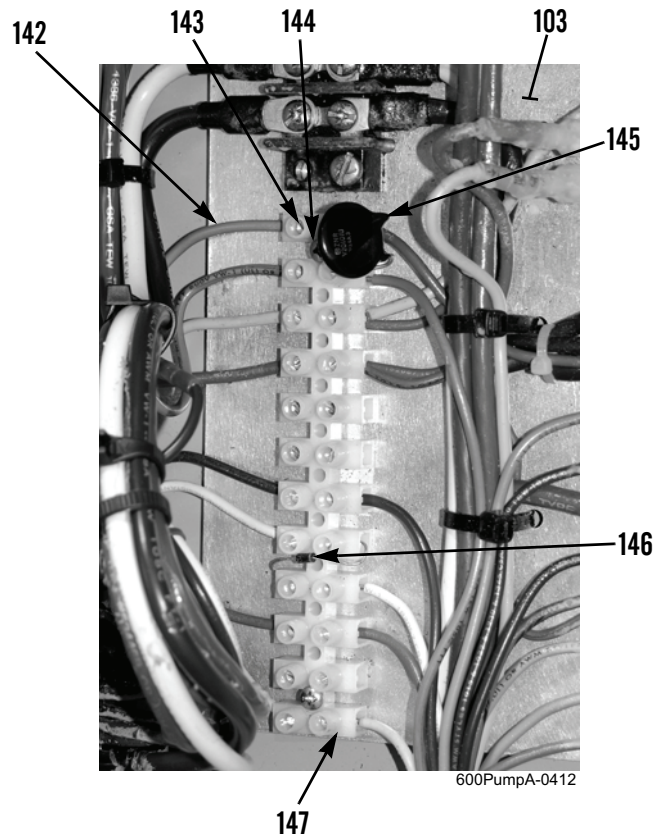

Figure 37. Large-Connection Terminal Block.
1. Loosen 18 screws (Figure 37, Item 143) and remove 18 wires (Figure 37, Item 142), resistor (Figure 37, Item 145), and diode (Figure 37, Item 146) from large-connection terminal block (Figure 37, Item 147).
2. Remove two screws (Figure 37, Item 144) and large-connection terminal block (Figure 37, Item 147) from inside circuit board panel (Figure 37, Item 103).
1. Install large-connection terminal block (Figure 37, Item 147) on inside circuit board panel (Figure 37, Item 103) with two screws (Figure 37, Item 144).
2. Install 18 wires (Figure 37, Item 142), resistor (Figure 37, Item 145), and diode (Figure 37, Item 146) on large-connection terminal block (Figure 37, Item 147) and tighten 18 screws (Figure 37, Item 143).